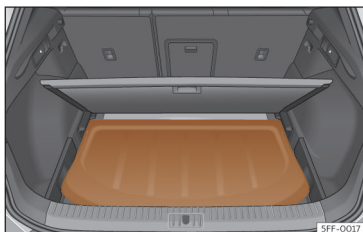

Fig. 185 In the boot: fitting the rear shelf.
- Place the rear shelf in the corresponding housing >>> **Fig. 185**.